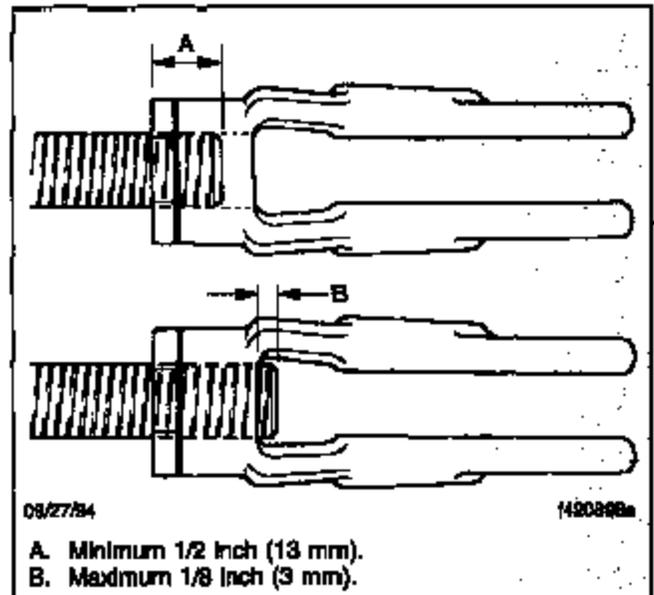

Fig. 6, Check Pushrod Engagement
- 6.5 Make sure there is at least 1/2 inch (13 mm) of thread engagement between the clevis and the pushrod. Also, check that the pushrod does not extend through the clevis more than 1/8 inch (3 mm). See Fig. 6.
- 5.2 Fully apply the brakes. Then, measure the distance from the bottom of the brake chamber to the center of the large clevis pin. See Fig. 6, Ref. B. Record this measurement as dimension C.